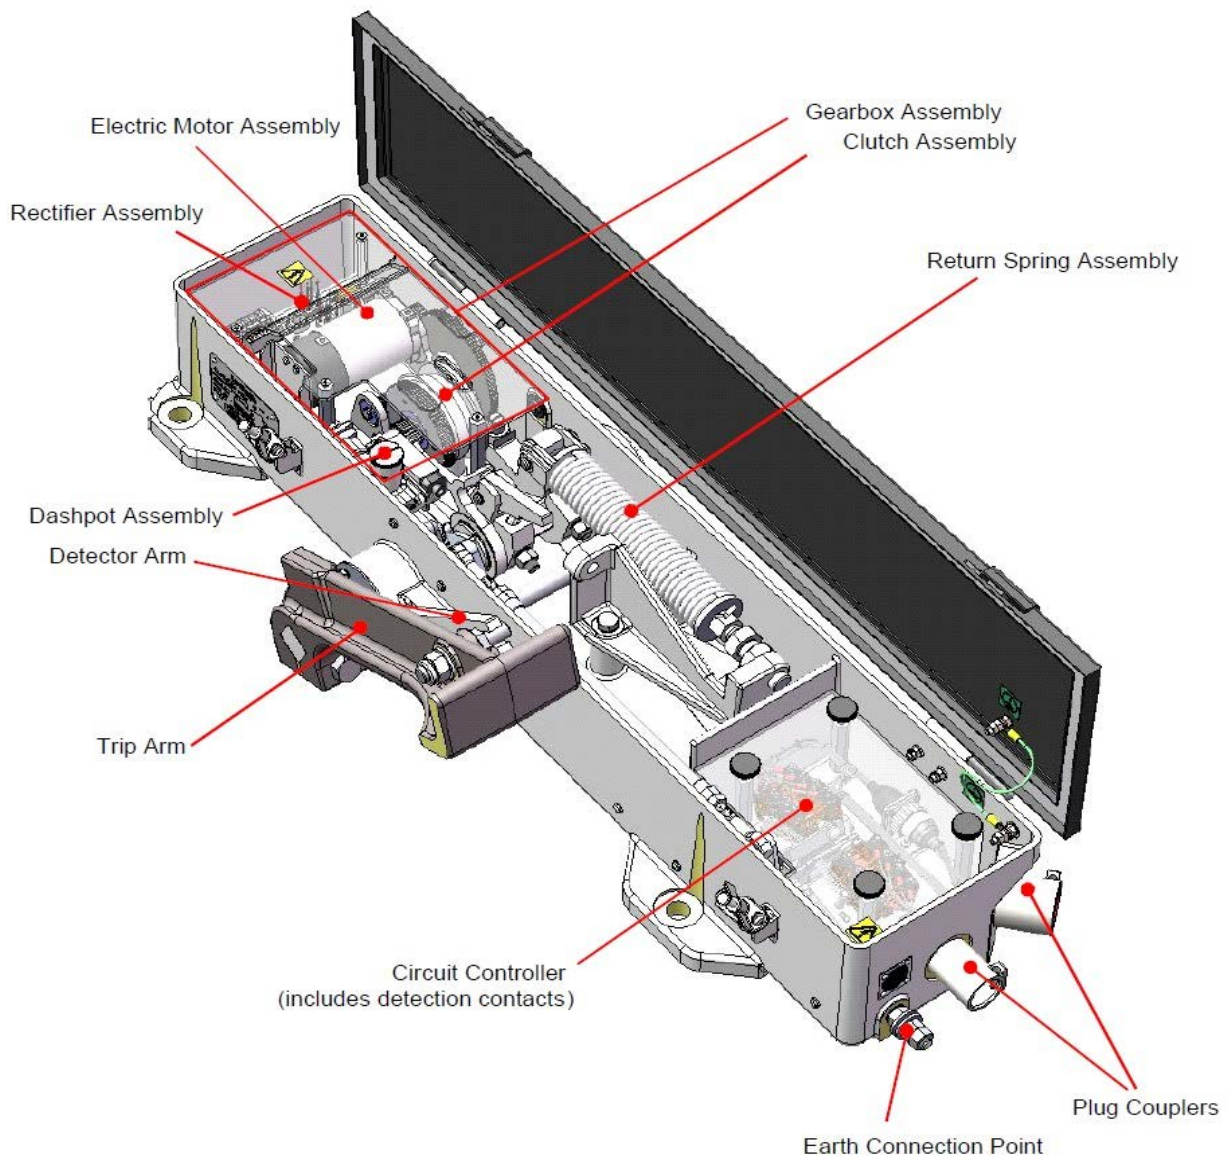

Figure 4 – JE Trainstop Main Assemblies
- b) With the supply and tail cables connected to the Trainstop, undo the four screw fixings securing the polycarbonate cover over the Circuit Controller (see Figure 4).